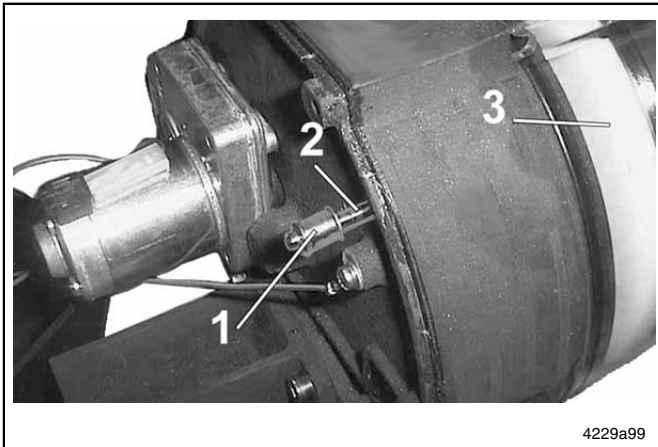

Fig. 29 Parts of the low-level control
- The follower plate (3) (Fig. 29) of the reservoir moves the pin (2) with the solenoid (1) ahead of the sensor on the printed circuit board and initiates the low-level signal.